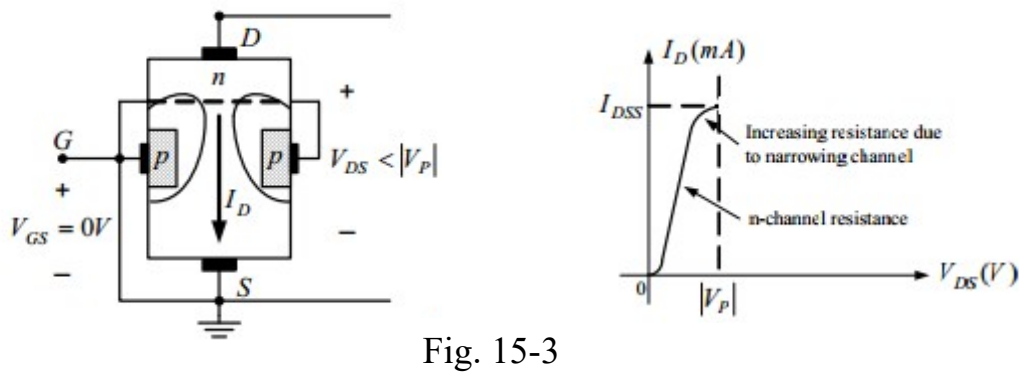

Fig. 15-3
- ❖ When  $V_{GS} = 0$  V and  $V_{DS} < V_P$  (**pinch-off voltage**)\*:  $I_D$  rises linearly with  $V_{DS}$  (**ohmic region**, n-channel resistance is constant), as shown in Fig. 15-3.